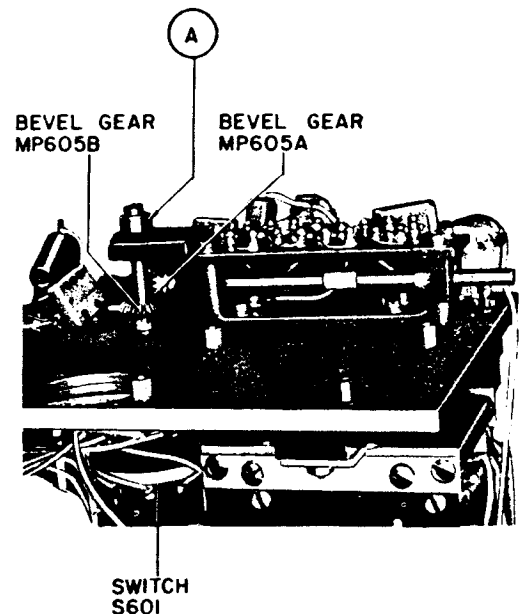

Figure 6-17. Electrical Frequency Control C-2861/WRT-1, Replacement of Switch S601
(1) GENERAL.—The only parts of the Electrical Frequency Control C-2861/WRT-1 which require any unusual disassembly or servicing procedures are the oven and the gear assembly components. Disassembly is illustrated in figures 6-17 through 6-19. All other components may be handled by standard methods and techniques. The Electrical Frequency Control C-2861/WRT-1 is prepared for servicing by withdrawing the chassis from the console. Release the six captive fasteners on the front panel and withdraw the chassis to the limit of travel. Engage the foul weather latch on the upper righthand corner. Pull the locking plunger at the rear of the chassis, and rotate the chassis to a position convenient for servicing the part or assembly involved. All procedures outlined in this paragraph may be accomplished with the chassis attached to the console.
Step 8. Refer to figure 6-17 and unpin collar (A) from switch S601. Remove the collar.